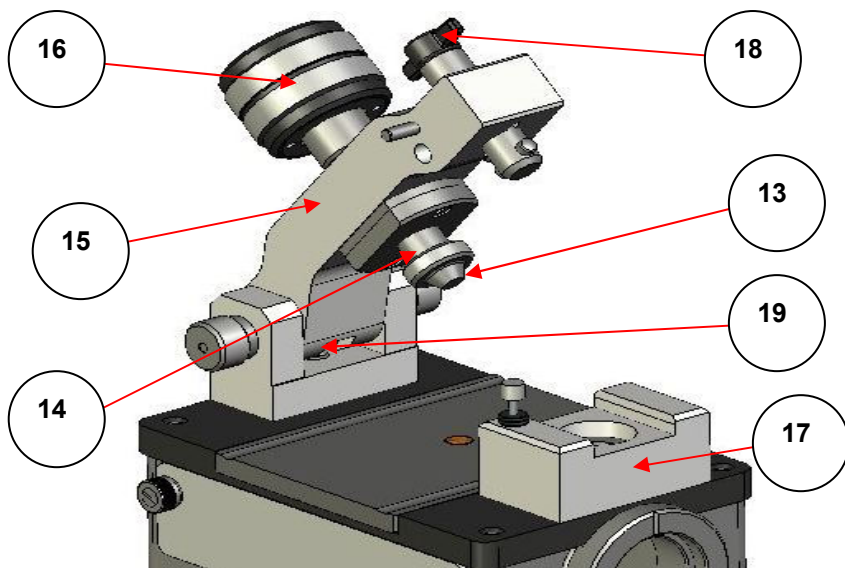

Figure 12. Silver Gate™ Bridge and Clamp Anvil Assembly (Open)
Tip: When placing an anvil (**13**) into position on the end of the clamp head pressure pin (**14**) on the bridge, push the hollow depression of the anvil on with a rotational movement to ensure it makes a compression fit with the retaining O-ring. Ensure the anvil pressing face is level and parallel to the bridge (**15**). (See Figure 12.)
When using the Silver Gate™ ATR Accessory, a liquid or solid sample is placed onto the crystal area of one the flat or recessed ATR crystal top plate assemblies to obtain an ATR spectrum for the sample. Particularly for solid samples, the best ATR spectra are produced when the sample is in close contact with the ATR crystal, so it is recommended to use the bridge and clamp anvil assembly (15) of the Silver Gate™ ATR Accessory on the optical unit. In this way a load can be applied to the solid sample from an appropriate compression head anvil (13) fitted to the clamp head pressure pin (14), (see Figure 12), to force the sample into good and close contact with the ZnSe or Ge ATR crystal.
At the hinge point of the Silver Gate™ bridge and clamp anvil assembly (**15**) there is a spring ball bearing stay up catch device (**19**) that prevents an open bridge from accidentally falling back down to its closed position. The bridge is lifted open to pass beyond the point where the ball bearing spring catch engages. When sampling **liquids** using either the flat or recessed ATR crystal top plate assembly, there is no need to use the bridge and clamping assembly (**15**) with any anvil compression heads (**13**), so the bridge can stay open if desired (see Figure 12.)